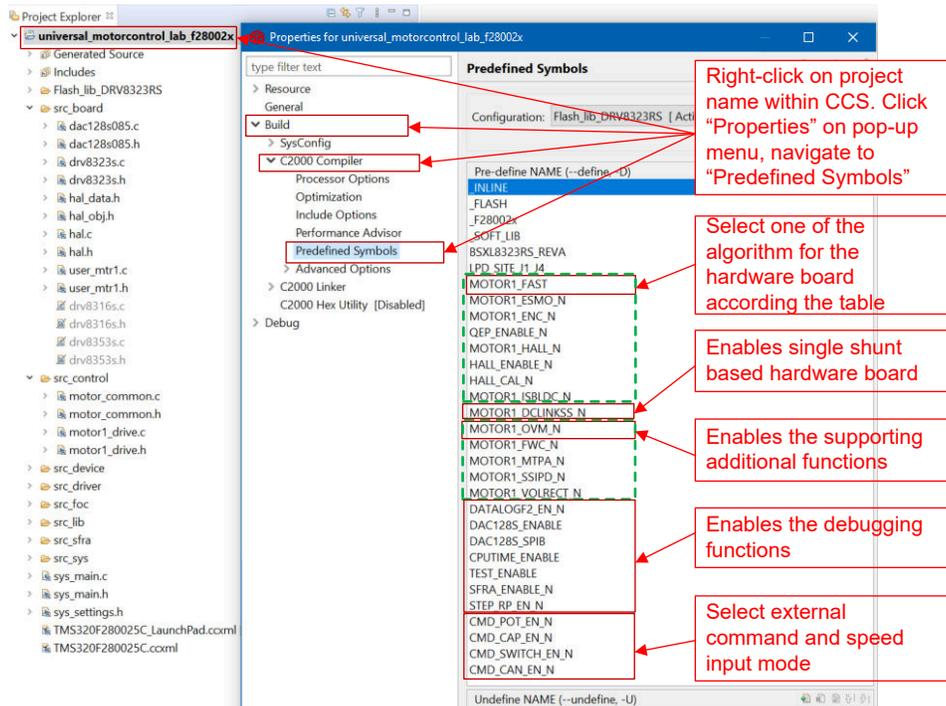

Figure 3-19. Select the Desired Pre-define Symbols in Project Properties
3. Configure the project to select the supporting functions in the project by right-clicking on the imported project name, and then click the "Properties" command to set the pre-define symbols for the project as shown in Figure 3-19.
- c. Select the right supporting functions by enabling the pre-define symbol/s as shown in Figure 3-19.
In order to enable the datalog functionality, the predefine symbol DATALOGF2_EN must be added in the project properties as shown in Figure 3-19.